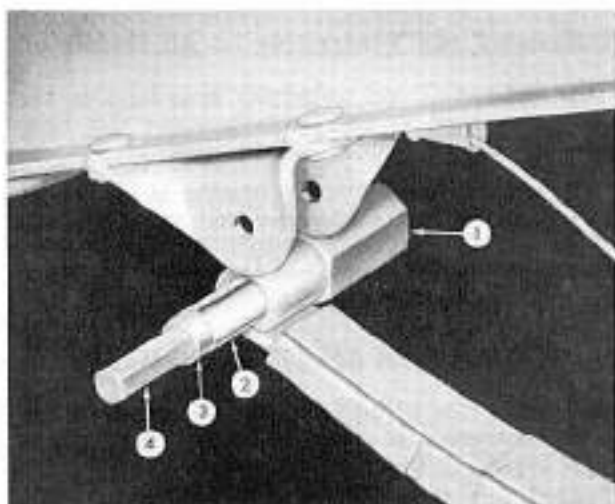

FIG. 424
Coat the bushing lightly with white lead and insert it into the spring eye just enough to hold it in place. Place the step washer (3, Fig. 424) on the screw, insert the screw (4) through the bushing (2) and install the nut (1) on the screw. The threaded end of the nut should be adjacent to the spring eye. Make sure the bushing is aligned squarely with the spring eye, then turn the nut and press the bushing into the spring eye until the edge of the outer sleeve of the bushing is flush with the edge of the spring. Remove the tool from the bushing.